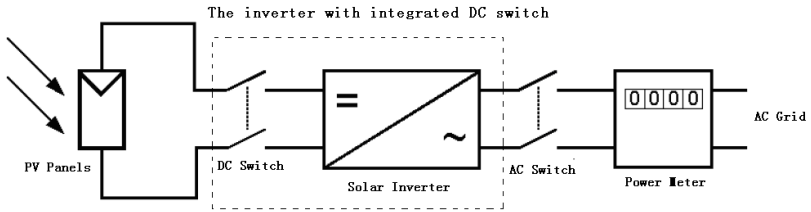

Fig.6 The PV system diagram
- C. DC Switch and AC Switch: “DC switch” is between PV Panels and solar inverter while “AC Switch” is between AC Grid (Utility) and solar inverter. They are be simplified in this diagram. In fact, they may consist of electrical breaker, fuse and connecting terminals. To comply with local safety standards and codes, the connection system should be designed and implemented by a qualified technician. JFY-tech also provides the solar inverter with an integrated DC switch demonstrated in dashed border in Fig.6. –S suffix indicates the inverter is integrated a DC switch in PV input side.